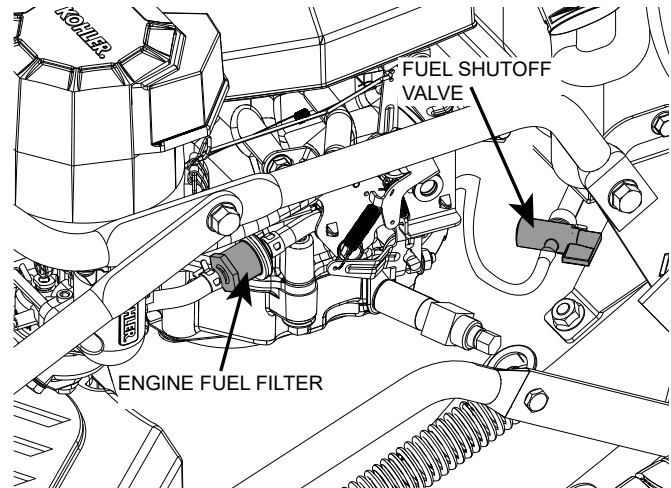

Figure 7-4. Fuel Filter
1. Close the shut-off valve. See Figure 7-4